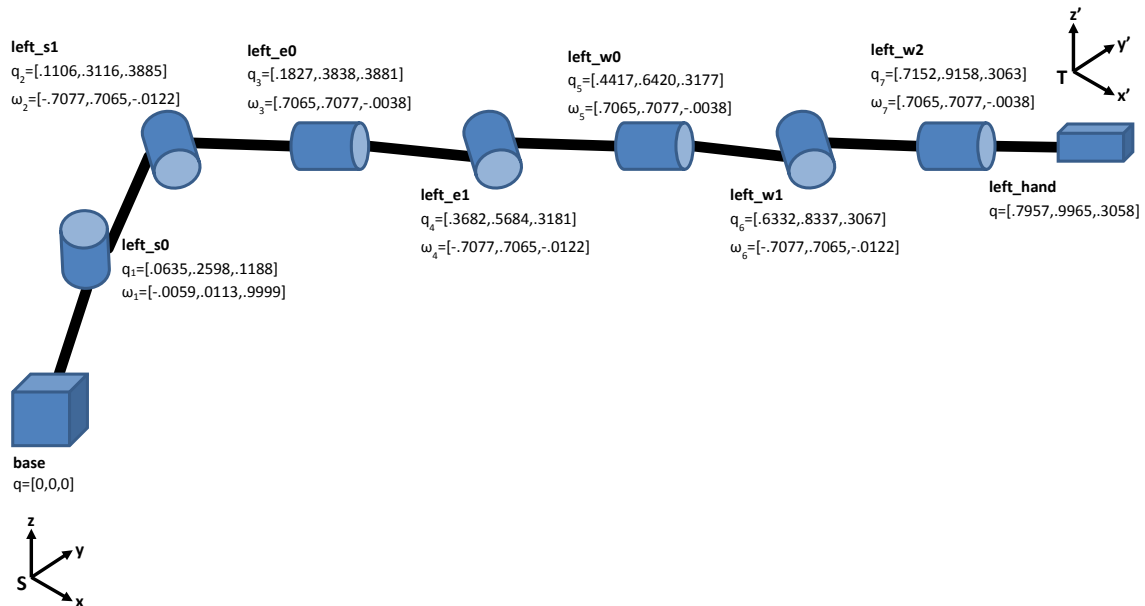

Figure 1: Baxter arm parameters.
**Task 1:** Using the code from the Block 2 supplement and referring to the textbook (available on bCourses) if necessary, write a Python function that computes the coordinate transformation between the base and tool frames for the Baxter arm pictured below (steps 3-7 above). Your function should take an array of 7 joint angles as its only argument and return the 4x4 homogeneous transformation matrix  $g_{st}(\theta)$ . Refer to Figure 1 for the parameters of the Baxter arm. The only other parameter you should need is the rotation matrix